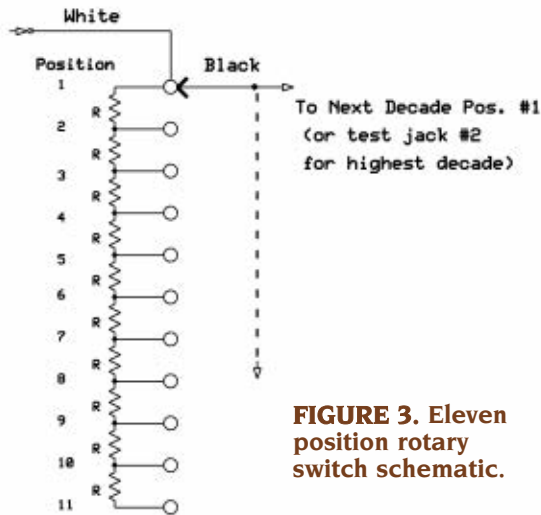

FIGURE 3. Eleven position rotary switch schematic.
Next up is the rotary switch style. Refer to **Figures 3 and 4** for a wiring diagram and a completed switch with components installed for one decade. The desirable contact arrangement here would be single pole/11 position. This would allow for 0-10 values per decade, and it is convenient to have that extra value (10) when in actual use. However, most of these switches will be 12 position with an occasional 10 position.